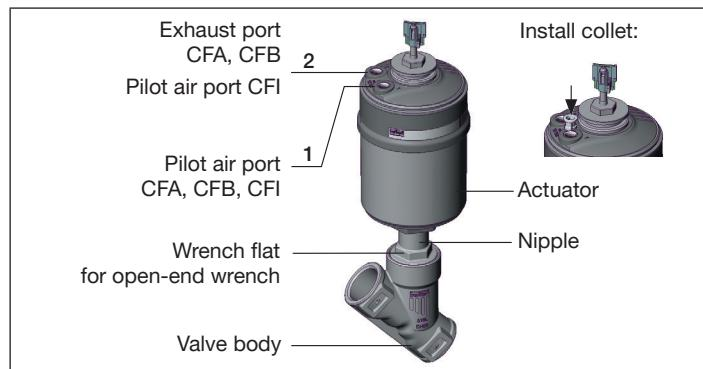

Fig. 4: Installation
- For control function A pressurise the pilot air port 1 (see "Fig. 4") with compressed air (5 bar): Valve opens.